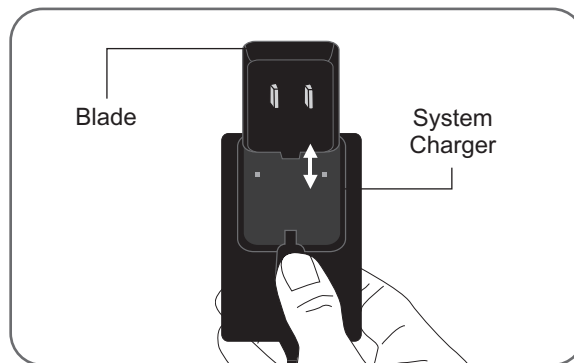

Figure 8-2: Sliding the Blade into the System Charger
2. Slide the selected blade into the System Charger. See Figure 8-2.